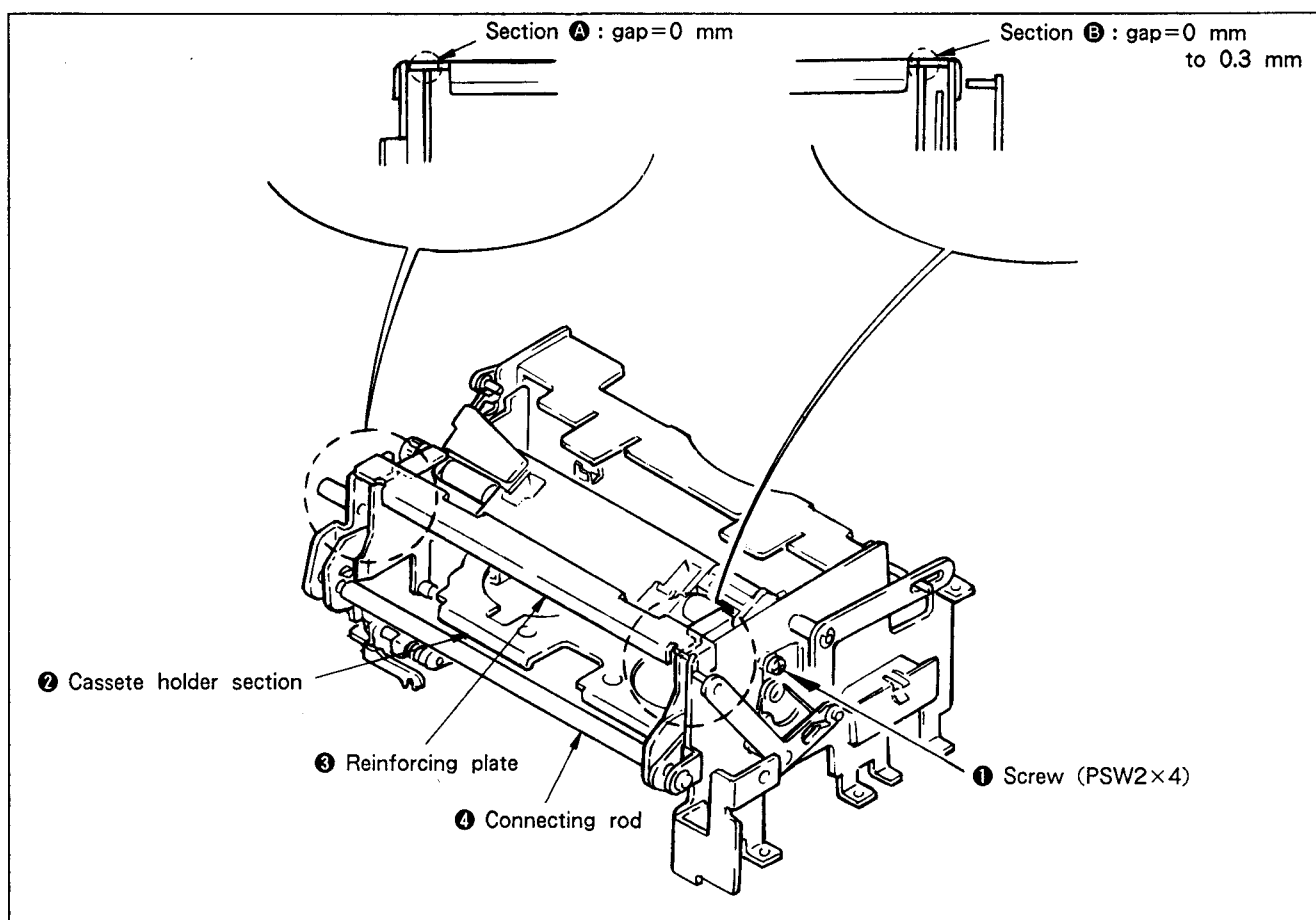

Fig. 7-59.
- 1) Loosen screw ①.
- 2) Adjust so that there is no gap between cassette holder section ② and reinforcing plate ③ (section A, section B). (See Fig. 7-59.)
- 3) Tighten screw ①.
- 4) Apply a screw locking compound to screw ①.